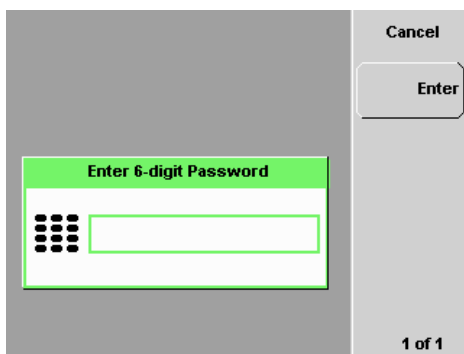

Figure 2-49 Enter password to restore display
- 9 After screen is blanked, pressing of any keys on the front panel will prompt you to enter password to restore the display (see Figure 2-49). You are allowed up to three attempts of password entry.